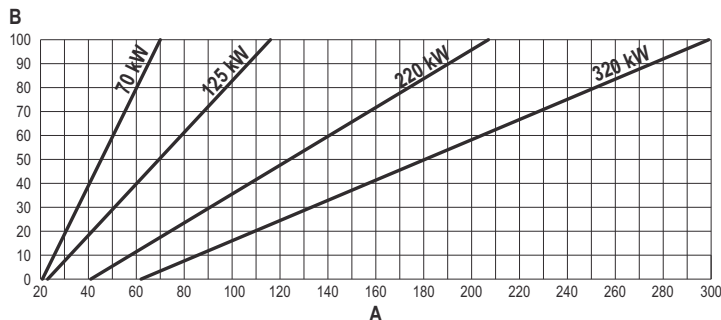

fig. 64
- Press the contextual buttons 1 and 2 to increase or decrease the heating capacity (minimum = 00 - maximum = 100). See the diagram "Heating Capacity Adjustment" (fig. 64).